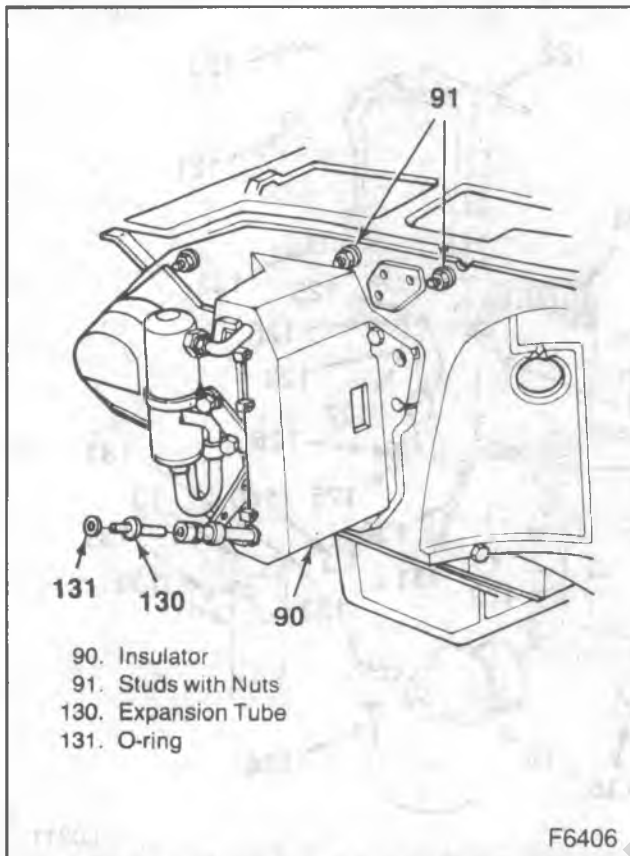

Figure 38—Dash Panel Insulator Removal
2. Insulator (Diesel Engine) (figure 38).
3. Blower motor lead and ground wires (134).
4. Blower motor cooling tube (133).
5. Blower motor lead and ground wires (134).
6. Insulator (Diesel Engines) (figure 38).